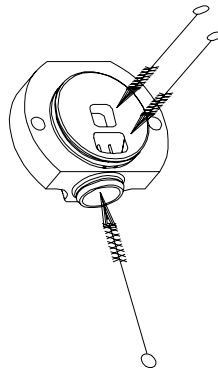

Figure 7-7 Brush the head ports
b. The head plunger openings, center plunger ports, breaker bar cavities, O-ring grooves, dispense nozzle mounting rings and mix ports (figure 7-7).